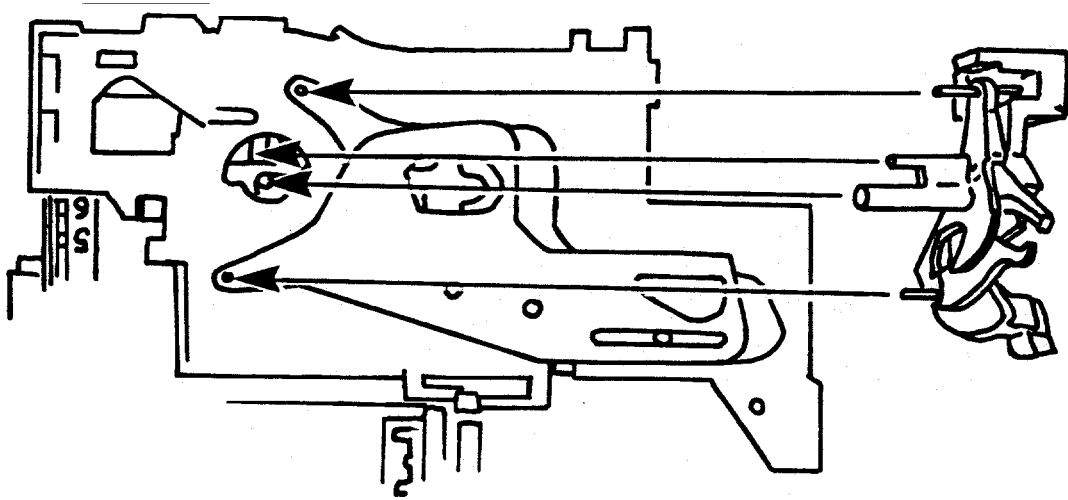

Fig. 33 Replacing Walking Beam/Inertia Assembly
37. Replace the Inertia and Walking Beam Assembly by engaging the four pins in the Blades, Solenoid Plunger Yoke and Base Block pivot point (see Fig. 33). Carefully remove the dowel pin and test Shutter Blade operation by moving the Walking Beam Assembly to produce an aperture.